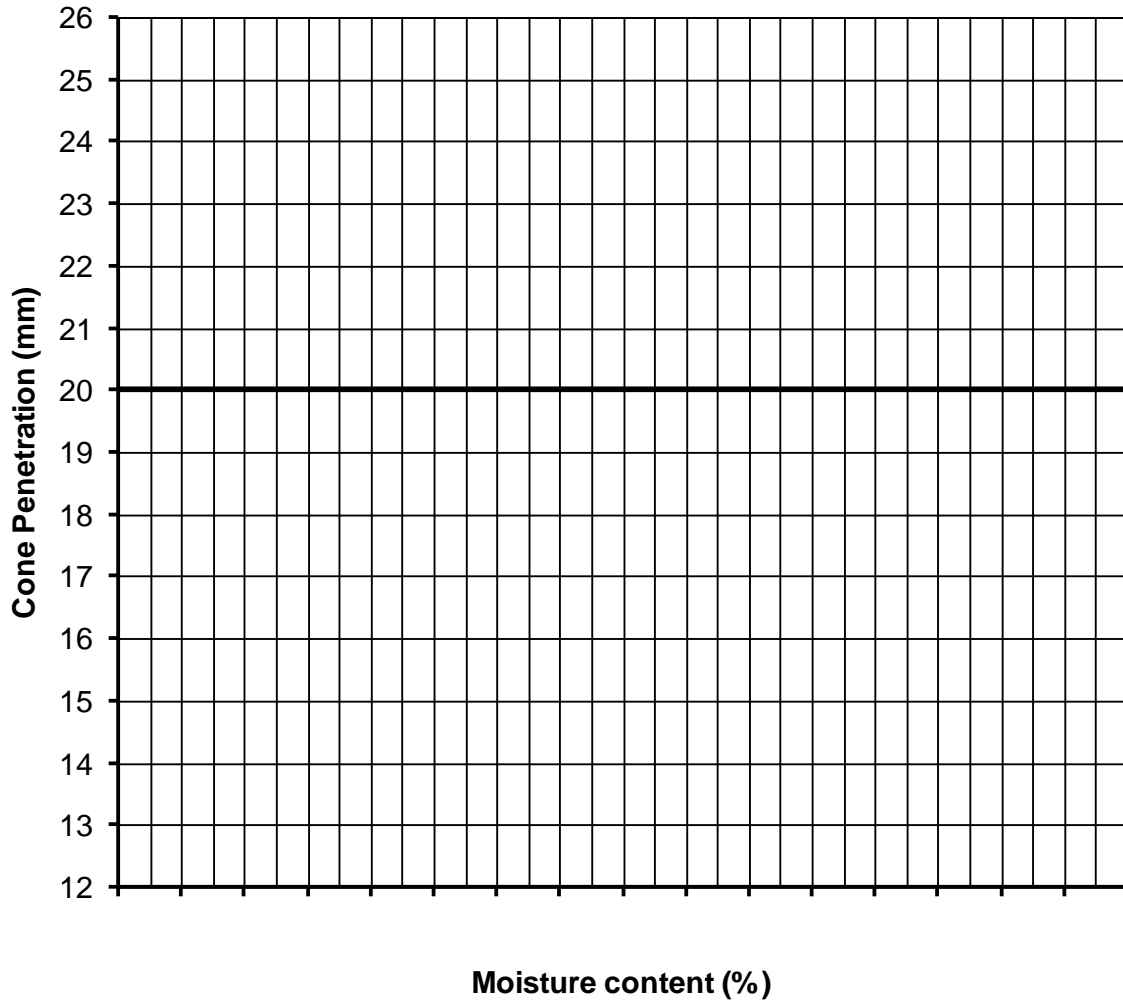

Figure Q3-1
- (i) Using Fig Q3-1, as appropriate, determine the ‘Index Properties’ for this soil. Ensure that you fully define what the “Index Properties” are for fine-grained soils. (8 marks)